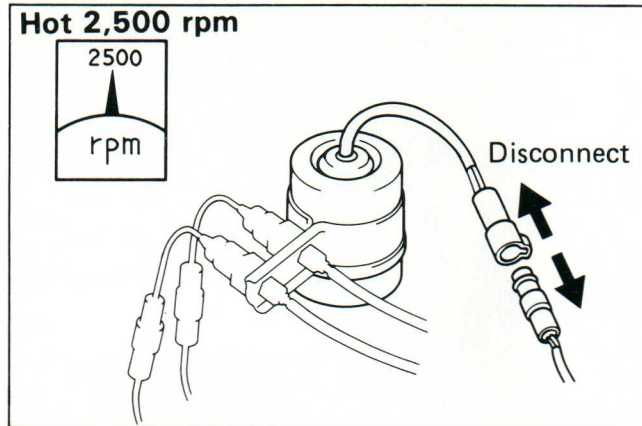

Figure 248-5
2. Check the EBCV with a hot engine (Figure 248-5).